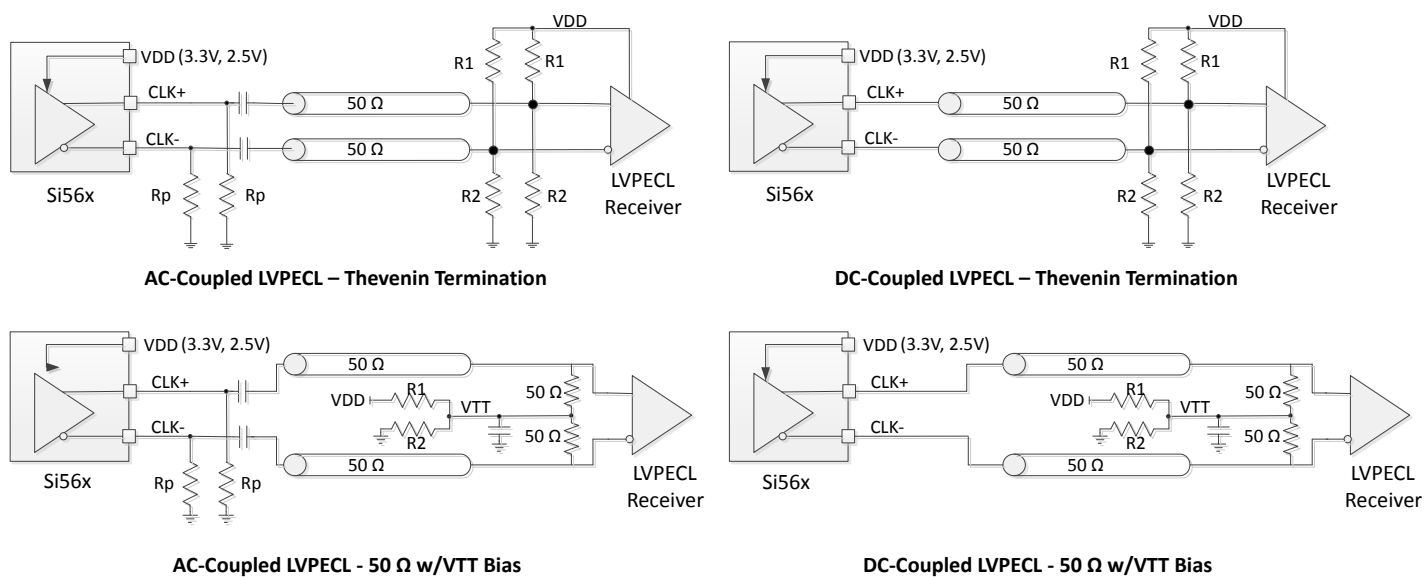

Figure 4.1. LVPECL Output Terminations
3.  $R_{term} = 50 \Omega$  to  $V_{DD} - 2.0$  V (see Figure 4.1).